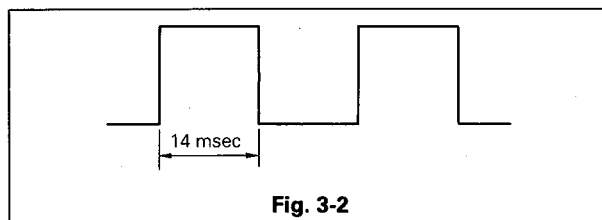

Fig. 3-2
- Connect an oscilloscope to PIN NO ④ of connector [TP].
- Adjust VR4A4 so that the H-time shown in Fig. 3-2 is 14 msec.